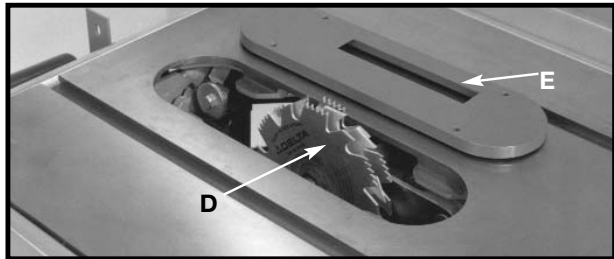

Fig. 51
2. Attach the dado head set (D) Fig. 51, to the saw arbor.
⚠ CAUTION THE ACCESSORY DADO HEAD SET TABLE INSERT (E) FIG. 51, MUST BE USED IN PLACE OF THE STANDARD TABLE INSERT.